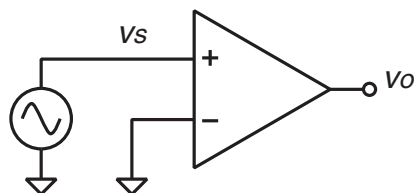

Figure 2: An opamp with a single-ended input.
4. Decompose the opamp input in Figure 2 input into differential and common-mode components by hand analysis. In other words, express the differential and common-mode components of the opamp input in Figure 2 in terms of v_s .
5. Show that the differential gain of an opamp can be found using a single signal source as shown in Figure 2 as long as $A_d \gg A_c$. This is the setup you will use in the lab since a differential signal generator is not available in the lab. *Hint:* $A_d \equiv v_o / (v_{ip} - v_{in})$ and $A_c \equiv 2v_o / (v_{ip} + v_{in})$.